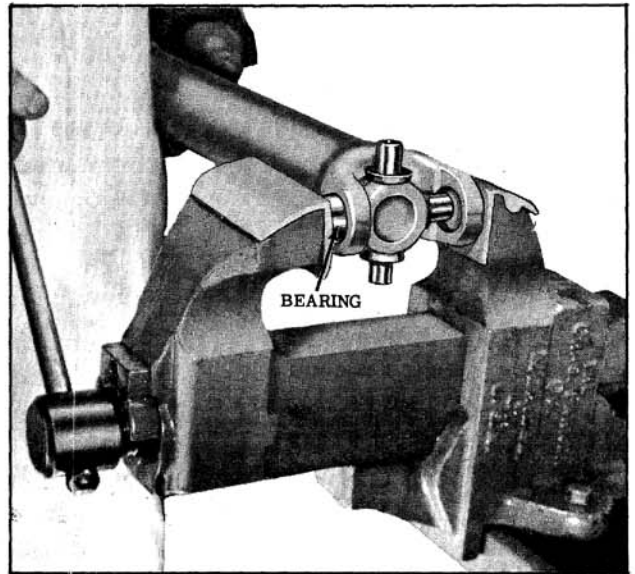

Fig. 10-65 Installing Bearings
- Press a bearing into one side of yoke until retaining ring can be installed. (Fig. 10-65)